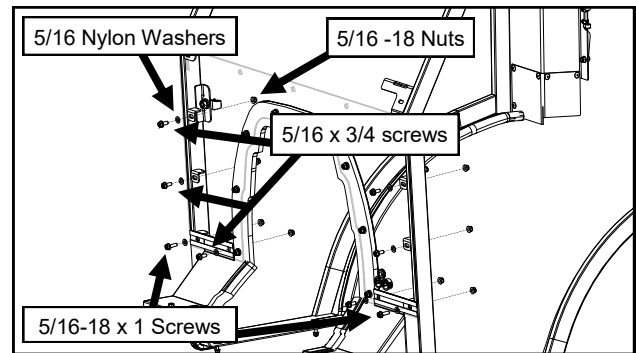

Fig. 8.1 (Cowl to Side Frame Fasteners)
- 8.1** With an assistant, place the cowl assembly over the vehicle's dashboard. Fasten the cowl to the side frames. NOTE: 1" long screws are used at the lower holes, 3/4" long screws are used at all the remaining holes. See Figure 8.1.